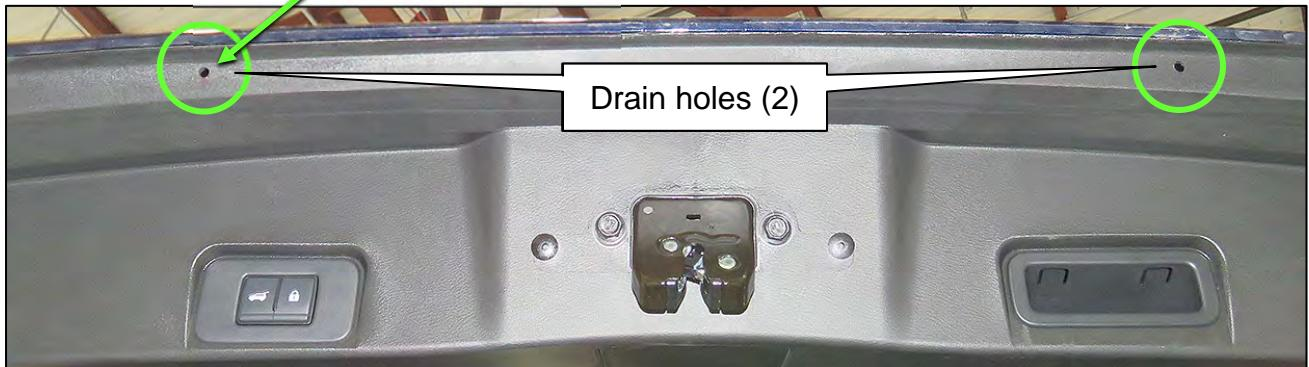

Figure 39
- Refer to Figure 39 on page 19 for orientation of finished drain holes.
49. Using a 6 mm (approximately  $\frac{1}{4}$  inch) drill bit, drill one (1) hole at each mark made in steps 47 and step 48. A total of two (2) holes shown in Figure 39.